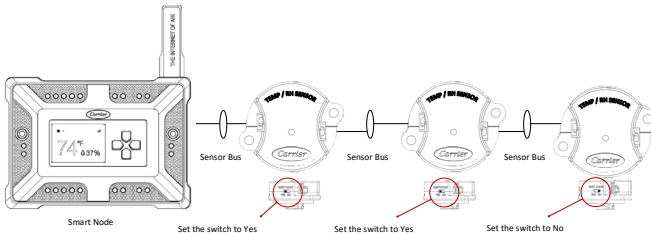

Figure 4
2. Power to the Duct Sensor is provided through this cable; no external power wiring is required. If an additional Duct sensor needs to be connected, connect the other Sensor Bus cable to one end of the OUT port of the Duct Sensor and the other end to the IN port on the Duct Sensor. See Figure 4 for connections.
4. To enable Multiple Duct Sensor communication, the *Daisy Chain* switch must be set to Yes. When there is no requirement for additional sensors to be connected to the OUT port of the DPS, the *Daisy Chain* switch must be set to No. See Figure 4.